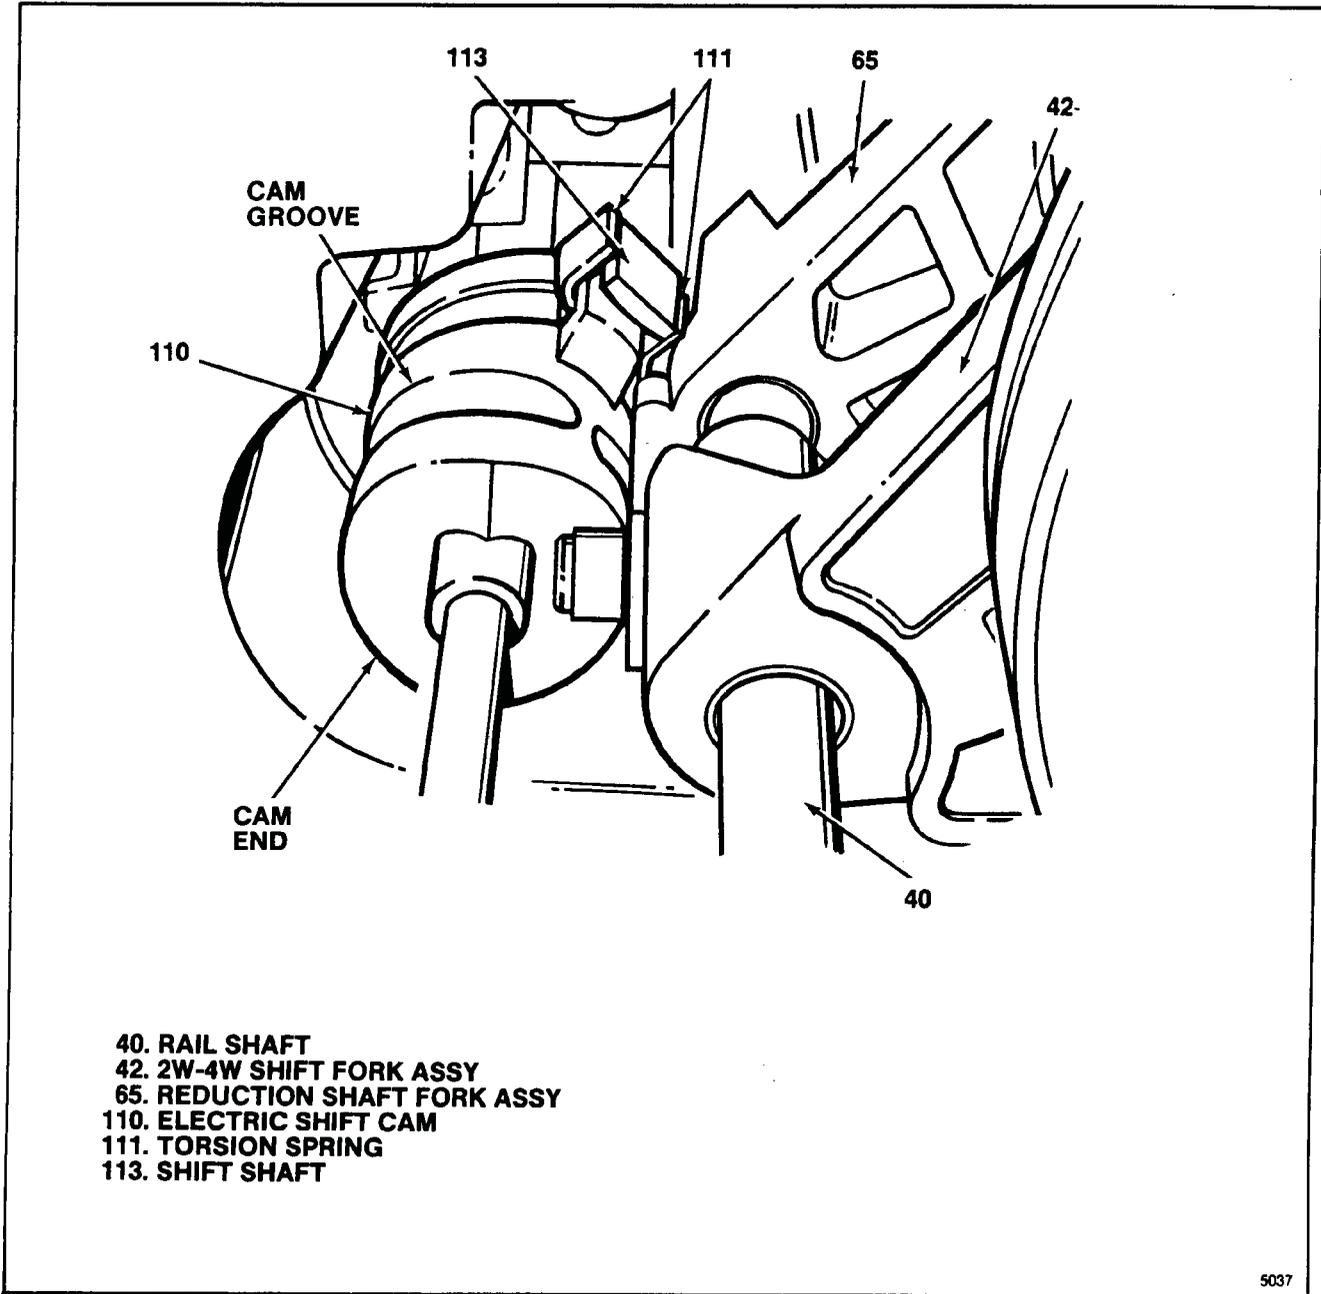

Figure 5-17. Electric Shift Cam Installation
- a. If disassembled for parts replacement, assemble 2W-4W shift fork assembly (42) using new pin, roller and retainer assembly (42A). Press pin, roller and retainer assembly into bore in lockup fork (46) until retainer (43A) passes completely through and snaps in place. Make sure that cam roller (45A) turns freely.
- b. Install two fork facings (41) on 2W-4W shift fork assembly (42).
- c. Assemble return spring (38) and lockup hub (37) in lockup collar (39) and retain with snap ring (36), completing 2W-4W lockup assembly (35).
- d. Install rail shaft (40) in transfer case, through reduction shift fork assembly previously installed and into blind hole in case.
- e. Engage 2W-4W shift fork assembly (42) or lockup fork (40A) in groove in 2W-4W lockup assembly and slide this group down over output shaft (62) and rail shaft (40).
- f. Install shift collar hub (34), engaging splines on output shaft (62) and in 2W-4W lockup assembly (35).
- g. On electric shift units only, install electric shift cam group (110 through 113) previously assembled (paragraph 5-6) as follows (see figure 5-17):
1. Position electric shift cam group as shown in figure 5-17, rotated so that end of torsion spring (111) will contact side of reduction shift fork assembly (65) that faces up, toward top of case.
2. Holding rail shaft (40) down, raise up fork assemblies (65 and 42 or 40A) slightly. Rotate electric shift cam group into position so that roller on reduction shift fork assembly (65) is in groove in shift cam (110) and roller on 2W-4W shift fork assembly (42) or button on lockup fork (40A) is on cam end. Then lower this group of parts into the transfer case engaging shift shaft (113) on pin in transfer case.